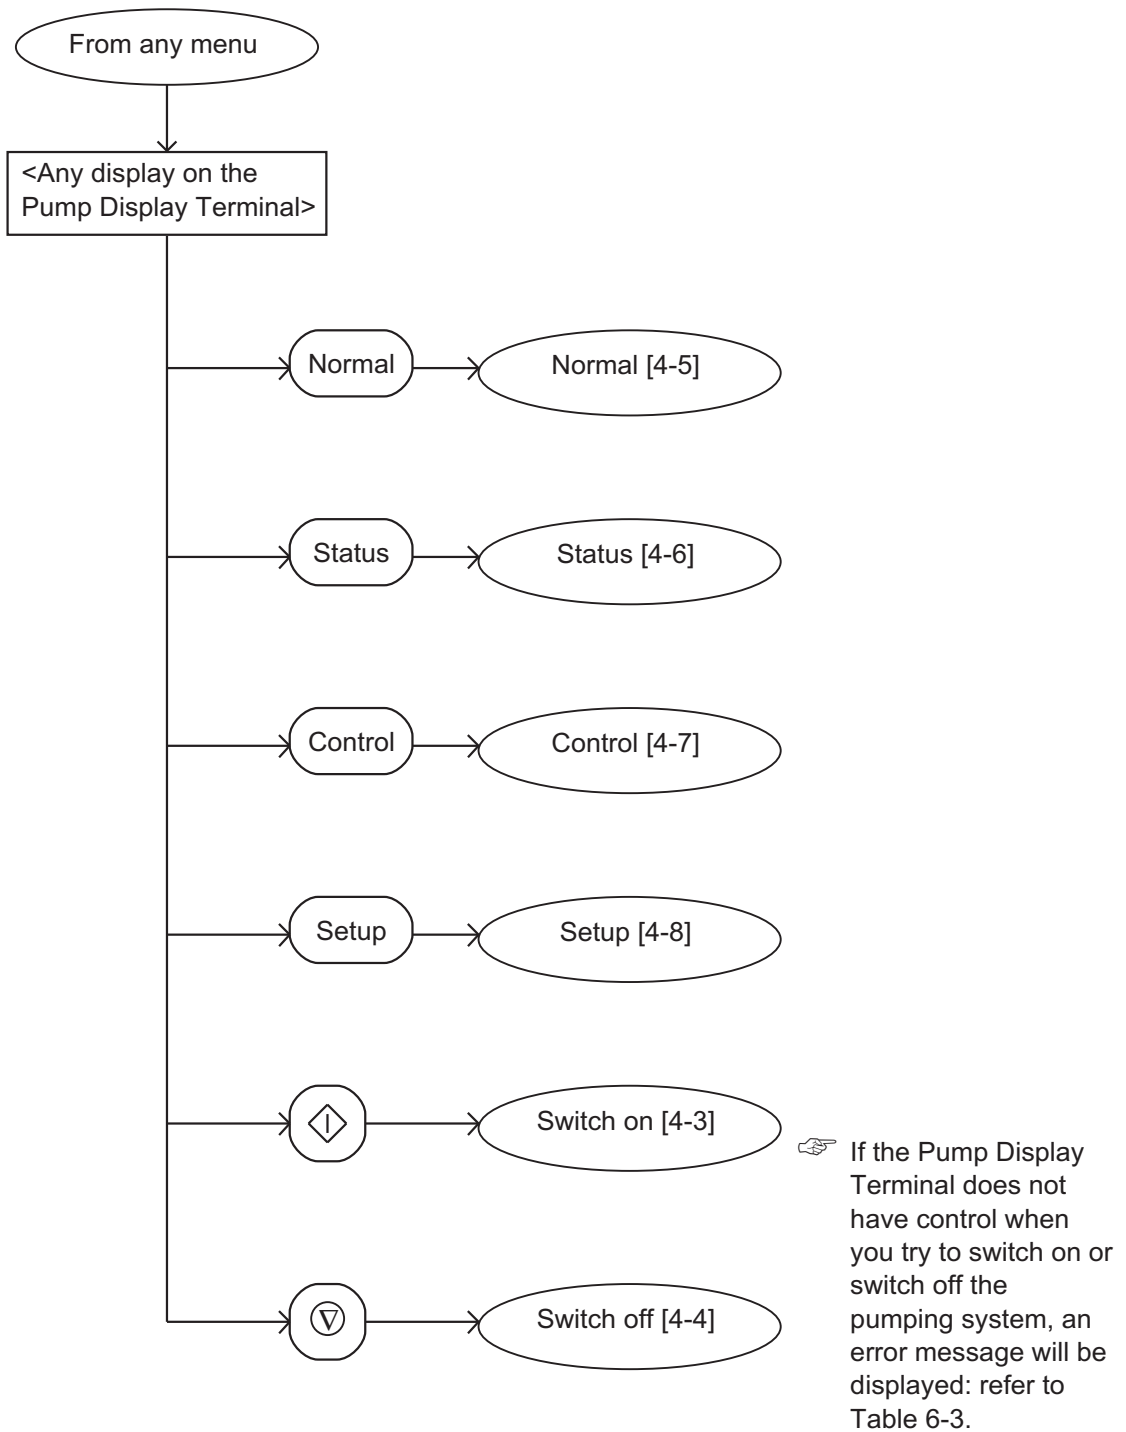
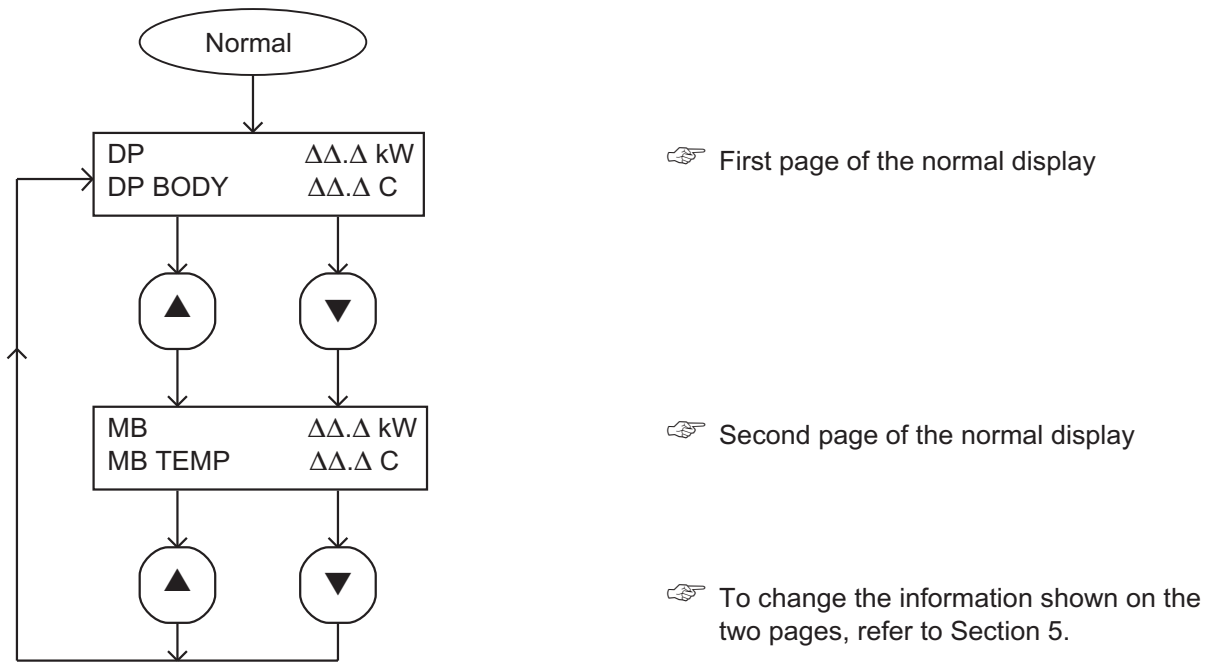

Figure 4-2 - Menu logic
Figure 4-5 - Normal menu
The menus used and the display messages shown on the Pump Display Terminal are described in the menu diagrams in Figures 4-2 to 4-19. The following symbols and conventions are used in the menu diagrams:
When you first switch on the iH system, the normal display is shown: see Figure 4-5. Refer to Figure 4-1. You can then press the On or Off button (1 or 10) or any of the four menu buttons (7) to enter the corresponding menu. Then, regardless of the current menu and display status, when you press any of these buttons, you exit the current menu and enter the corresponding new menu. Figure 4-2 shows this menu control logic.
In the menu diagrams in Figures 4-2 to 4-19, text shown without chevron brackets in the two-line display symbol is the actual text that will be shown on the display. In this text, the ' $\Delta$ ' symbol is used to show where a digit will be shown; the value of the digit depends on the sensor data or information you enter into the Pump Display Terminal.